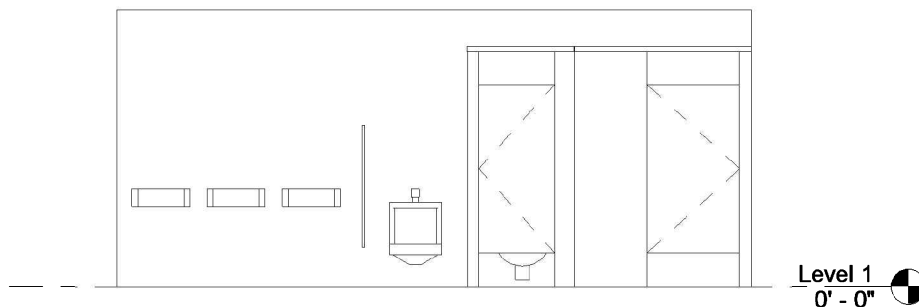

FIGURE 11-1.15 Men's Toilet – Typical initial view
40. Switch to the new view. Adjust the *Crop Region* so the concrete slab is not visible. Your view should look like Figure 11-1.15.